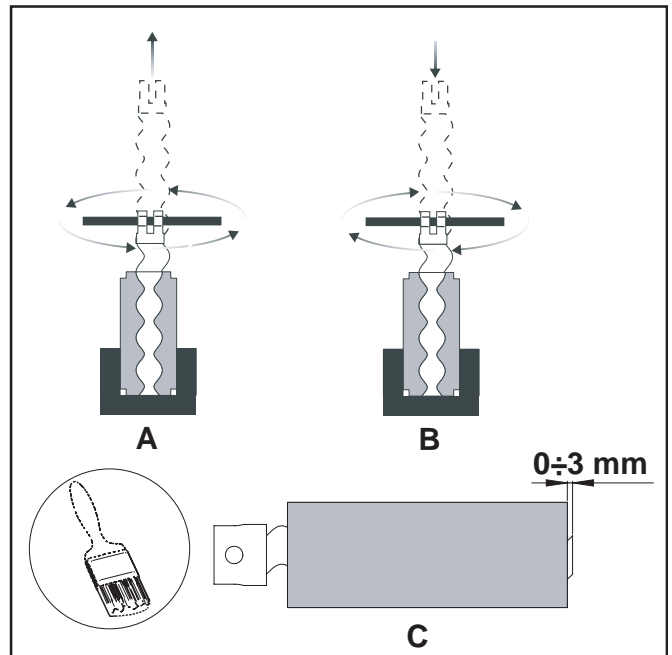

FIG.60
- Put the pump in a vice and remove the auger (FIG.60-REF.A).
- Screw the rotor; the rotor end must get out from rotor max. 3 mm (FIG.60-REF.C).